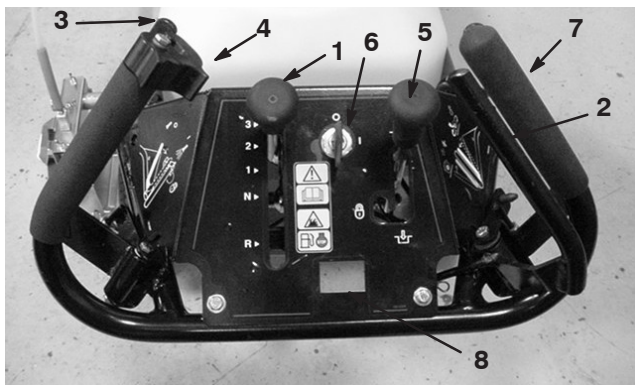

Figure 12
The speed selector has three speeds forward and one reverse speed. To select speeds, move speed selector to desired position. (Fig. 12).
To engage the traction drive, the lever must be pushed forward against the right handgrip (Fig. 12). To stop traction, release the lever.
Squeeze the lever against the left hand grip to start the paint operation (Fig. 12). To stop the paint operation, release the lever.
Rotate the latch over the paint control lever to lock the lever in place (Fig. 12). Use lever latch when painting long lines or when cleaning the system.
To engage the brake, move the lever rearward. To engage the parking brake move the lever into the detent. To disengage the parking brake, move the lever out of the detent and forward (Fig. 12).
Rotate the key to the ON position before starting the engine with the recoil starter (Fig. 12). To stop the engine, rotate the key to the OFF position.
6. Rotate the ignition key to the Start position (Fig. 12).
The line painter has 3 forward speeds. **1** is slow, **2** is medium (paint), and **3** is fast (transport). (Fig. 12). **R** is reverse.